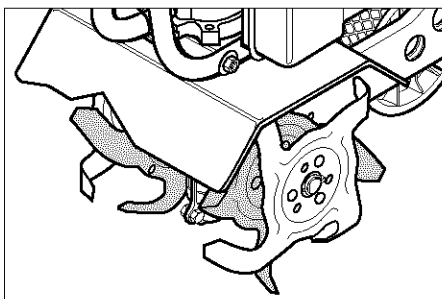

Figure 18: Stony soil tine pattern.
4. Reinstall the two outer tine sections on the sides from which they were removed (Figure 18).